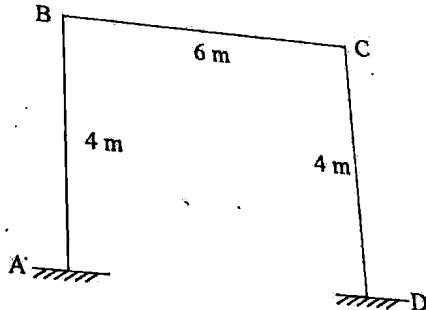

Fig. 10(B)
10. (A) Derive the element/member Stiffness matrix for plane frame member.
- (B) Frame the global load matrix for the portal frame in Fig. 10 (B) accounting the effect of temperature difference. Take external temperature =  $20^{\circ}\text{C}$ , internal temperature =  $50^{\circ}\text{C}$ ,  $\alpha = 1 \times 10^{-5}/^{\circ}\text{C}$ , size of column =  $(230 \times 500)$  mm and size of beam =  $(230 \times 650)$  mm.